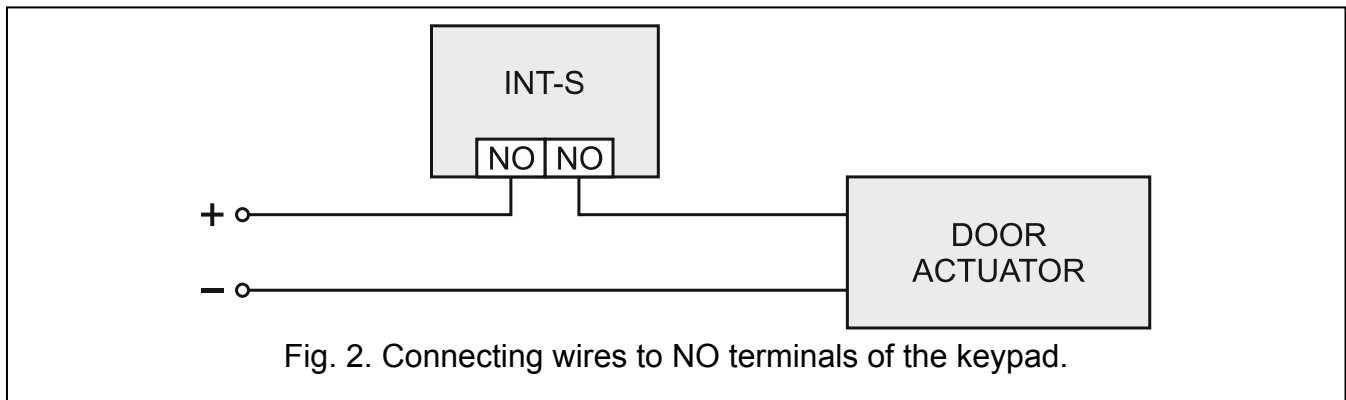

Fig. 2. Connecting wires to NO terminals of the keypad.
8. If the partition keypad is to control an electric strike, electromagnetic lock or another door actuator, connect corresponding wires to the NO terminals (see Fig. 2). It is not recommended that the door actuator be powered from the same source as the partition keypad.